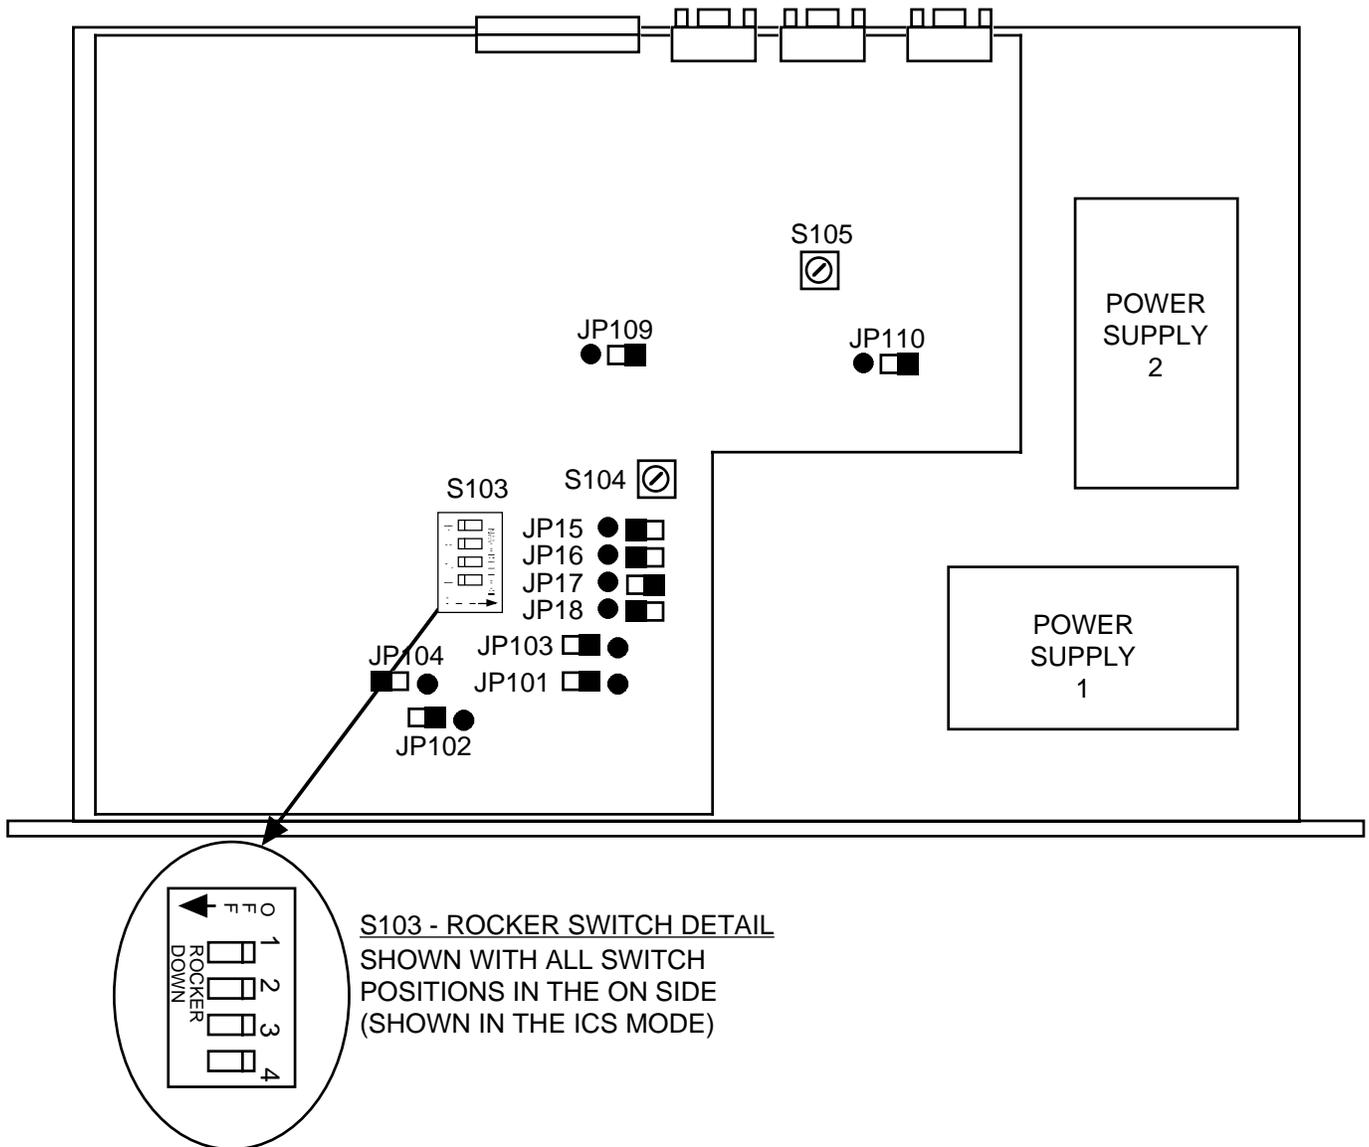

FIGURE 2.3 1582-13 PCB Settings Parts Locations
JP15, JP16, JP17, JP18 - Alarm clock frequency 3-pin jumper FACTORY SET to provide clock for the time out alarm circuitry. **DO NOT ADJUST THESE!** Figure 2.3 shows the correct positions..
Switches S104 (CH2), and S105 (CH1) determine the length of time after clock is removed before a loss of clock alarm is indicated. Use a small flat blade screwdriver or tuning tool to carefully adjust these switches to the desired length in 0.1 second increments (position 1 = 0.1 seconds, position 2 = 0.2 seconds, etc.). (see Figure 2.3)
The following gives the switch mode settings of the on board controls that can be changed in the field: JP101, JP102, JP103, JP104, S103 (Section 2.3, Figure 2.3). All shown with external **alarm = ground**.
1. Set the on board controls as desired (Section 2.4, 2.6, Figure 2.3).